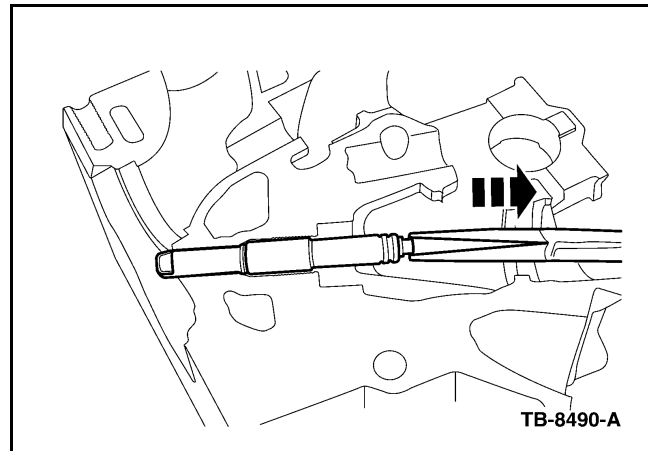

Figure 3 - Article 069-2008-1155
- b. Mode 2: The entire porcelain insulator and ground electrode shield remains in the cylinder head. (Figure 3)